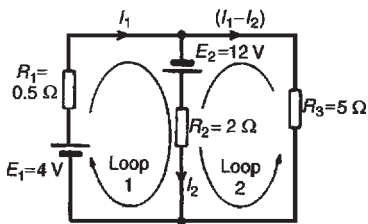

Figure 15.8
1. Currents and their directions are shown labelled in Fig. 15.8 following Kirchhoff's current law. It is usual, although not essential, to follow conventional current flow with current flowing from the positive terminal of the source
2. The network is divided into two loops as shown in Fig. 15.8. Applying Kirchhoff's voltage law gives: For loop 1: